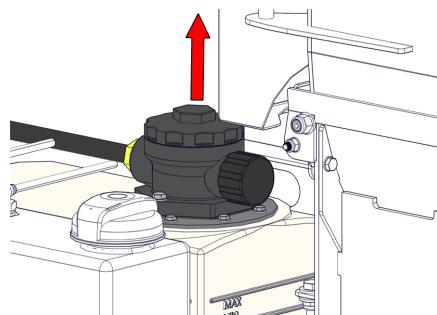

Figure 28 - Hydraulic Tank
3. Clear all debris from around the hydraulic tank (Figure 28).
9. Refill with hydraulic oil VG32 to between the 'Min' and 'Max' lines on the tank (15 litres) (Figure 28).